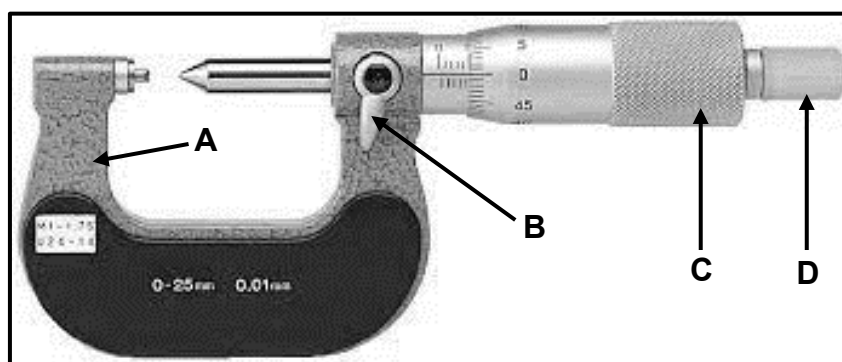

FIGURE 7.4
7.4 FIGURE 7.4 below shows a screw thread micrometer. Label **A–D**.